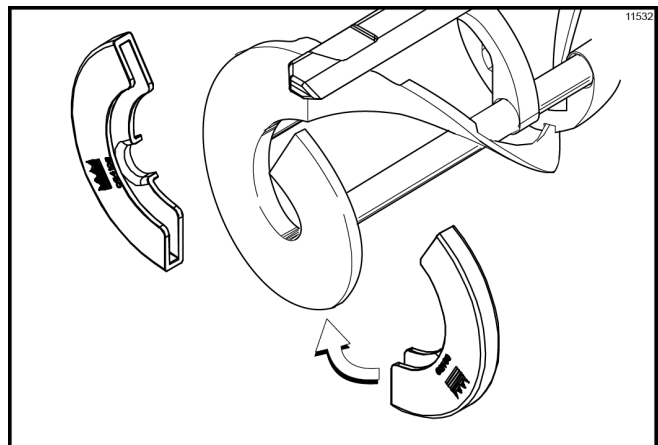

Figure-133
7. If the beater shoes are in good condition, install the beater shoes. (See Figure-133.)